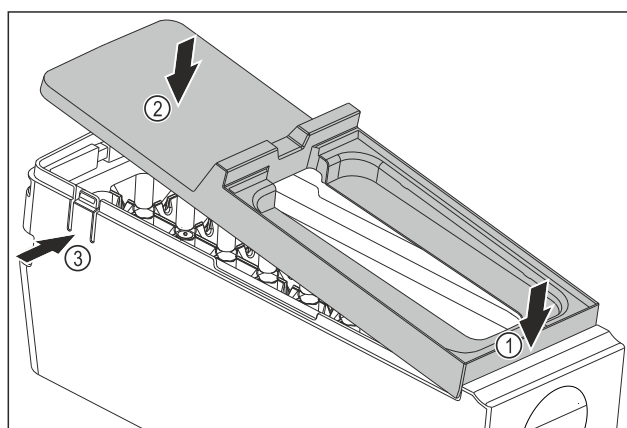

Fig. 174
- Installing the EasyTwist-Ice body cover: Place the cover on the front. Fig. 174 (1)
- Lower the cover at the rear. Fig. 174 (2)
- The cover locks into both tabs Fig. 174 (3) audibly.